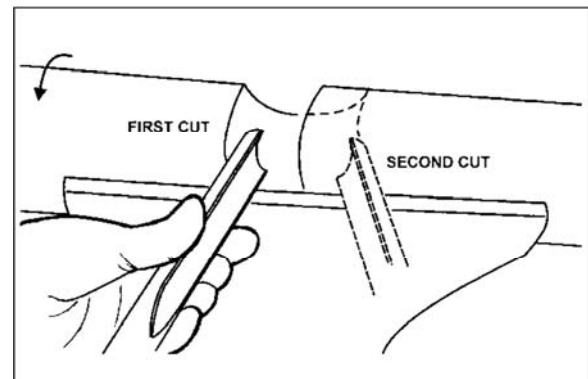

Figure 23
1. Use a spindle gouge. With the flute of the tool at 90 degrees to the workpiece, touch the point of the tool to the workpiece and roll in towards the bottom of the cove. See Figure 23. **Stop at the bottom; attempting to go up the opposite side may cause the tool to catch.**